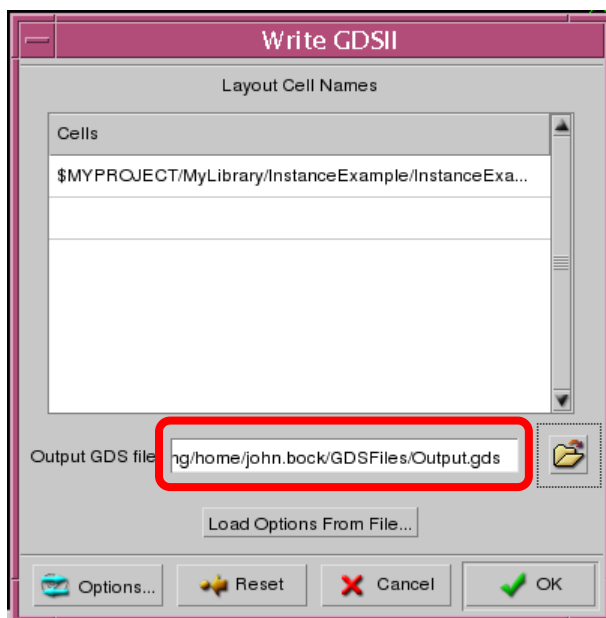

Figure 50: Write GDSII Dialog Box
2. In the field **Output GDS file**, select the path and name of the resulting GDS file (see Figure 50) then click **OK**.